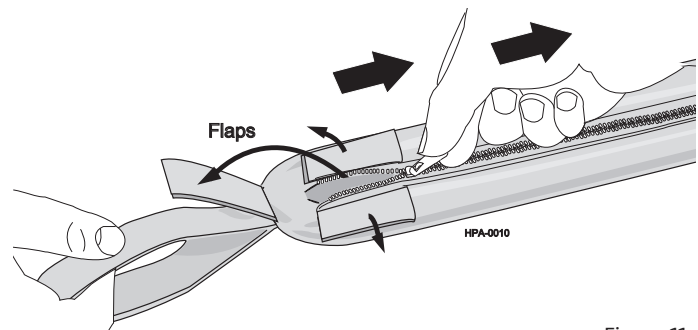

Figure 11
Step 2: Lift the hook-and-loop flaps to expose the zipper pull. While holding the sleeve's pulling loop with one hand, unzip the sleeve (Figure 11).